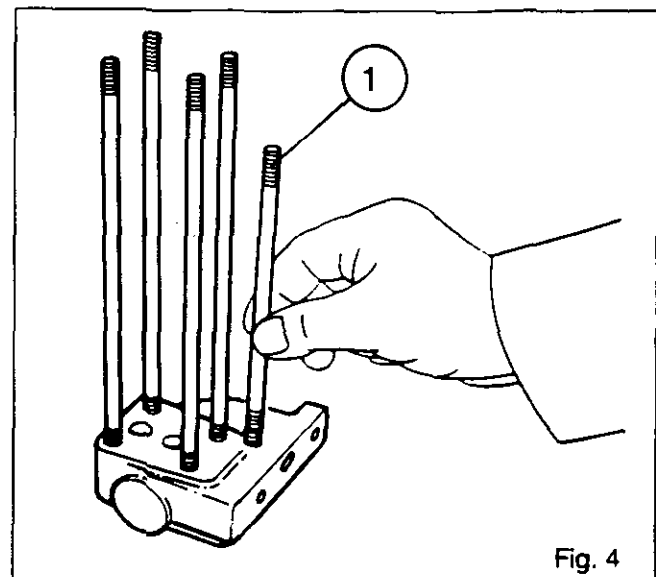

Fig. 4
6. Replace threaded rods (1)(Fig.4).